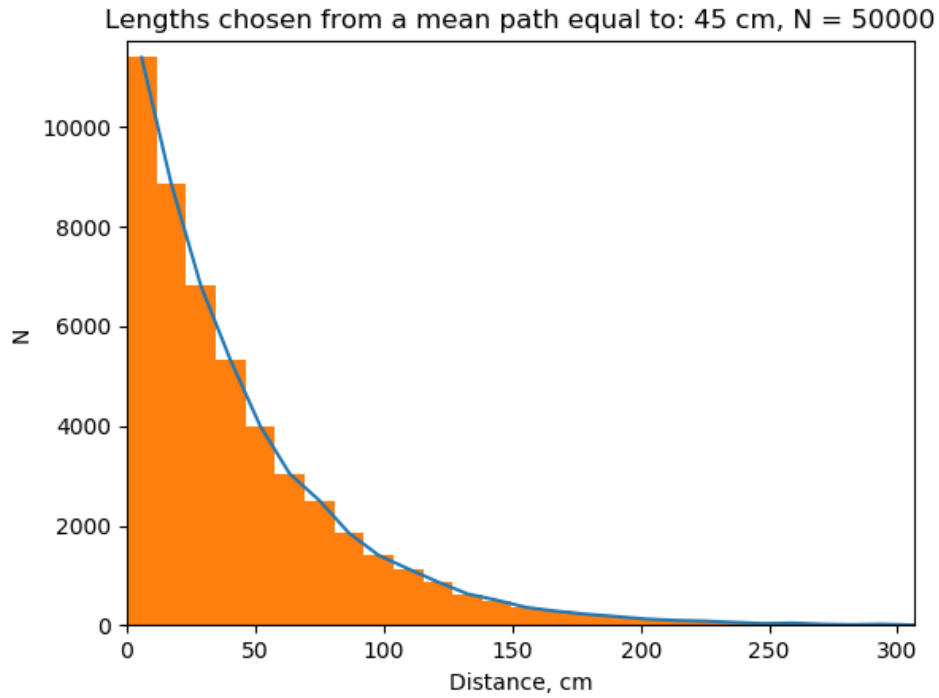

Figure 3. A histogram (shaded) of counted N vs. distance, produced by Equation (5). Lines join the bin centres to produce a curve.
Slabs of materials were modelled by considering the position of the neutron relative to its starting point at the origin. If a neutron leaves bounds set for example, $0 < x < L$, the neutron has been either reflected or transmitted, depending on the last known position. Examples of each are shown below in Figure 3. It is assumed that the mean free path outside of the slab is infinite so a material that has left the slab cannot reenter and undergo a different process. Before moving another step, it is decided where the neutron will now scatter or be absorbed according to Equation (4). If a randomly generated
Using the path lengths calculated by Equation (5) and a known mean free path, a method to calculate attenuation of a material when scattering is included was developed. A neutron with a mean free path of 45cm was used to produce a step length histogram shown below in Figure 3. If a step lies in the range of a bin, it is tallied into that bin. For small bin width, the error due to discreteness is negligible.